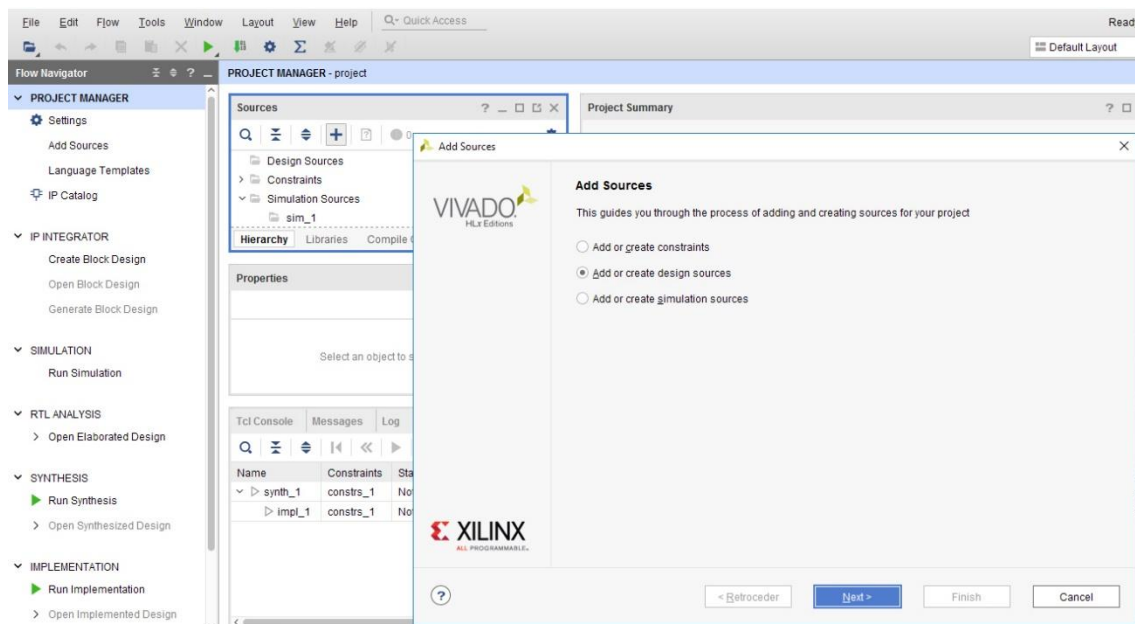

Figure 4
5. Select **Add or create design sources** (Figure 4)